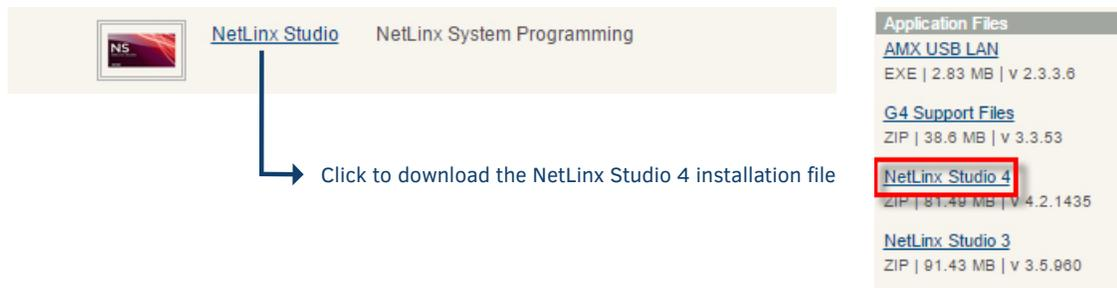

FIG. 156 NetLinx Studio v4 download links on [www.amx.com](http://www.amx.com)
2. Click the *NetLinx Studio 4* link download the installation file (FIG. 156):